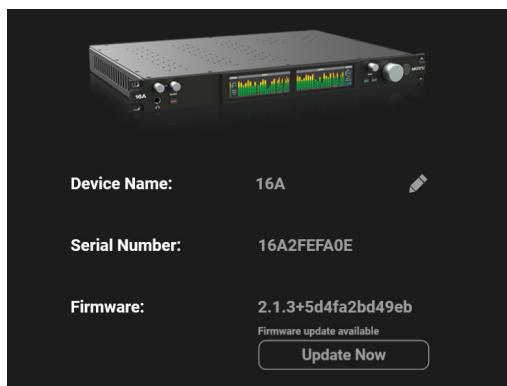

Figure 6-13: Go to the Device tab to see if there is a firmware update available.
- 2 Go to the Device tab and look at the *Firmware* setting (Figure 6-13).
3 If your computer has access to the internet, and there is a firmware update available, you'll see the *Update Now* button (Figure 6-13). Click it to update your firmware.